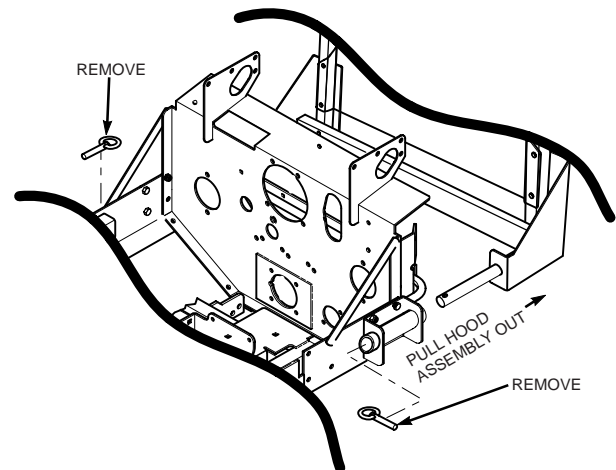

Figure 4-2
5. Remove the two (2) pins holding the hood assembly to the mounting brackets on the rear of the machine. See Figure 4-2.